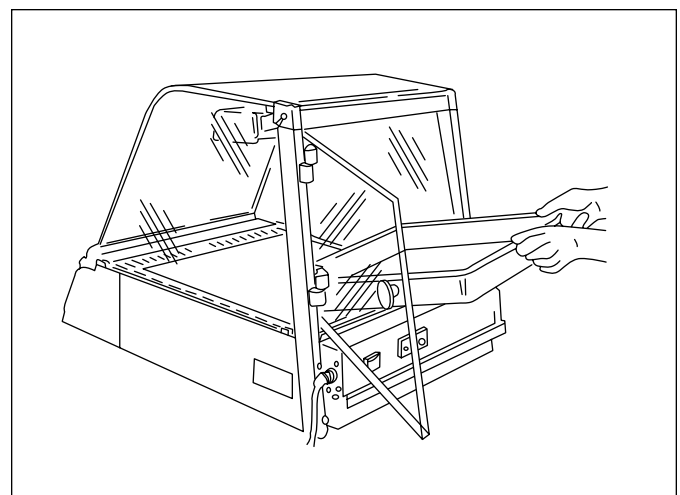

Figure 4. Loading Food (DCH-10 Shown)
6. Open the rear door and place the serving table pan(s) into the unit (Figure 4). Load the pan(s) with food using tongs or similar utensil. Close the door.